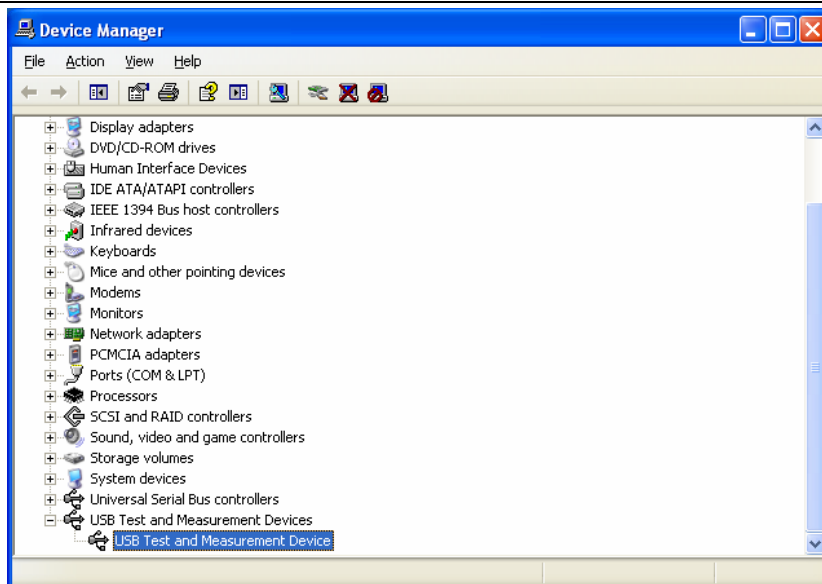

Figure 6-7 PC has installed USBTMC drive
**Install drive:** The installing steps of USBTMC are the same as that of USB CDC, see 6.2.3.1 for reference. When the installation of drive is finished, user can see “USB Test and Measurement Devices” in the device manager of PC, as shown in figure 6-7.